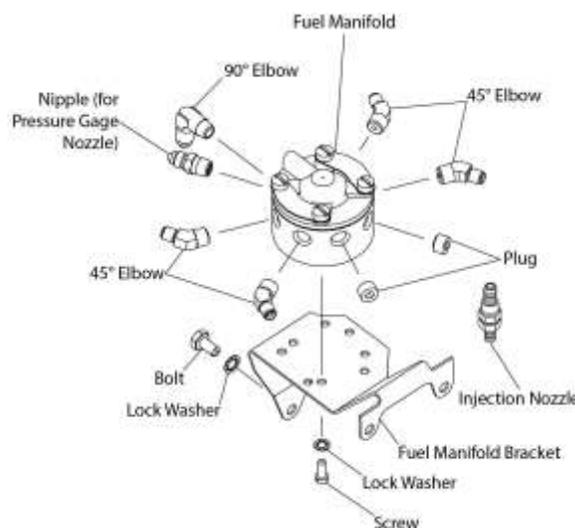

Figure 10
- (1) Put a fuel collection container under the fuel manifold.
- (2) Identify the fuel injector line ports on the fuel manifold (Figure 10).
- (3) Apply a label and disconnect all fuel injector lines and the fuel line from the fuel injector attached to the fuel manifold.
- (4) Let fuel drain out of the fuel manifold and fuel injector lines into the collection container.
- (5) Remove the bolts, washers, lock washers, and nuts that attach the fuel manifold bracket (Figure 10) to the crankcase. Discard the lock washers.
- (8) Remove the screws and lock washers (Figure 10) that attach the fuel manifold to the bracket and remove the bracket from the fuel manifold. Discard the lock washers.
- (9) Remove the fuel collection container and dispose of the fuel in accordance with environmental regulations.
- (1) Install the fuel manifold bracket on the fuel manifold (Figure 10) with the screws and new lock washers. Torque the screws to 25 to 30 in.-lbs (2 to 3 Nm).
- (3) Install the bracket (Figure 10) and fuel manifold on the crankcase with the bolts, nuts, washers, and new lock washers. Torque the bolts 96 to 108 in.-lb. (11 to 12 Nm).
- (4) Attach all fuel fittings with the fuel injector line to the corresponding identified ports on the fuel manifold.
- (5) Connect any other fuel lines to the fuel manifold.
- (6) Torque all fuel lines and all fuel line fittings in accordance with the latest revision of the *Service Table of Limits - SSP-1776*.